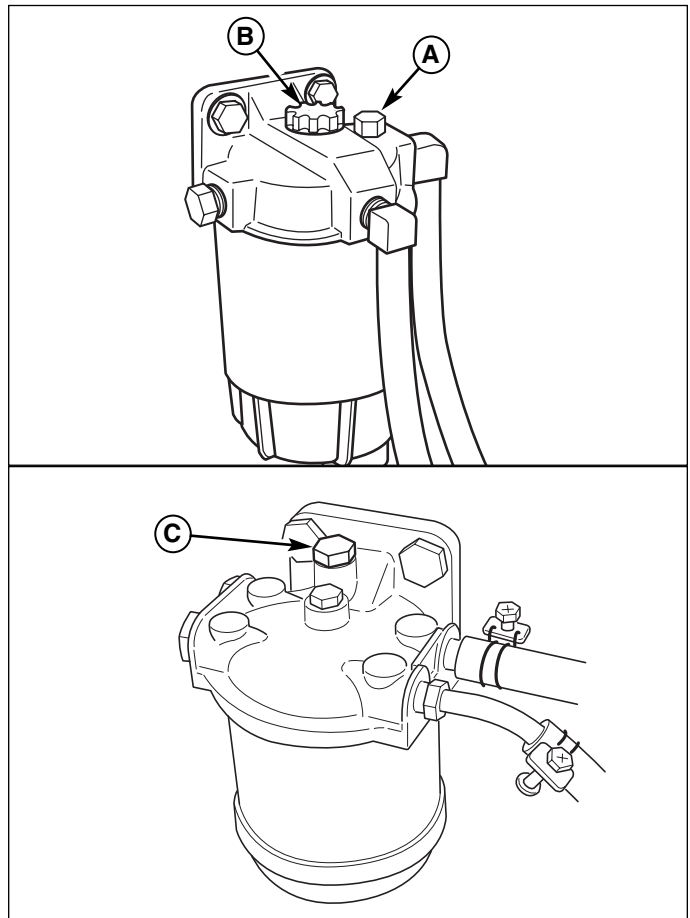

Figure 30. Fuel System Priming
1. Using a 1/2" wrench, loosen the vent screw (A, Figure 30) on the water separator 2-3 revolutions.
2. Unscrew the priming hand pump (B) located on top of the water separator. Operate the hand pump up and down until fuel that is free of air flows from the vent.